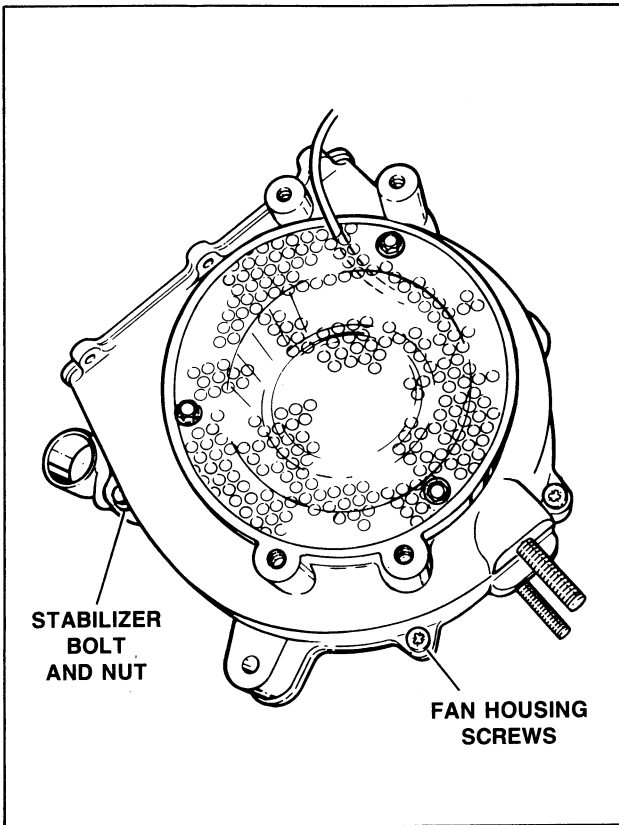

Figure 62 - Fan Housing Removal
- e. See Figure 62. Remove the stabilizer bolt and nut, screws and pull fan housing free.